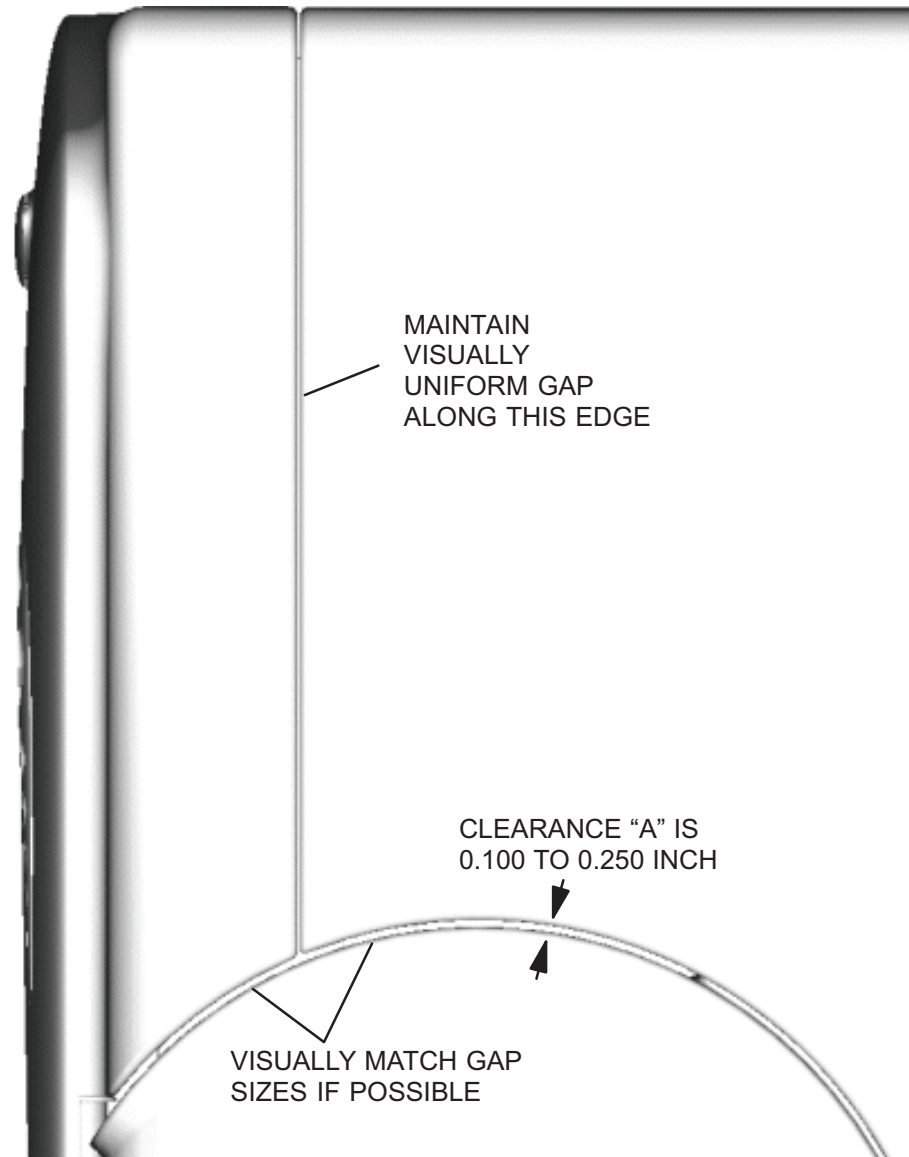

FIGURE 238 CLEARANCE "A" CHECK
5. Check clearance "A" between the Upper Right Column Cover and Lower Right Column Cover. Also check the uniformity of the gap between the Upper Right Column Cover and the Upper Front Cover. Refer to Figure 238.